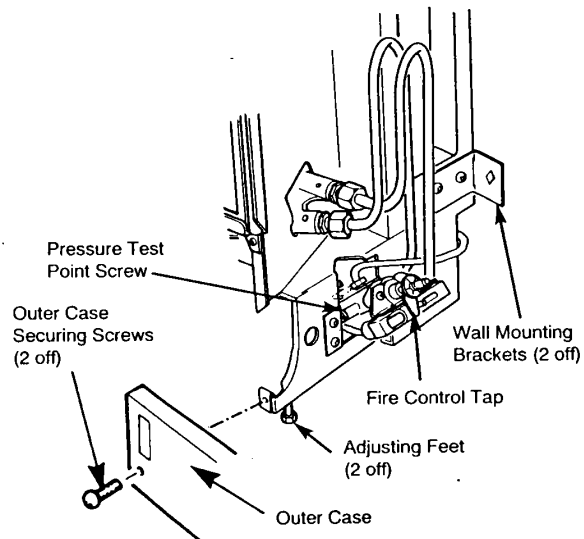

Fig. 7 Commission the Fire
- (c) Adjust the feet to level the fire (Fig.7). Check that the fire is sufficiently stable.
- (a) Fit the two wall mounting brackets using the four No. 8 x 3/8in self tapping screws provided (Fig. 7).
Check the gas pressure (Figs 7 and 11)
- (c) Secure the outer case to the inner case using the two screws provided then locate the cover panel in the spring clips (Fig. 7).
- (c) Remove the two case securing screws (Fig.7).